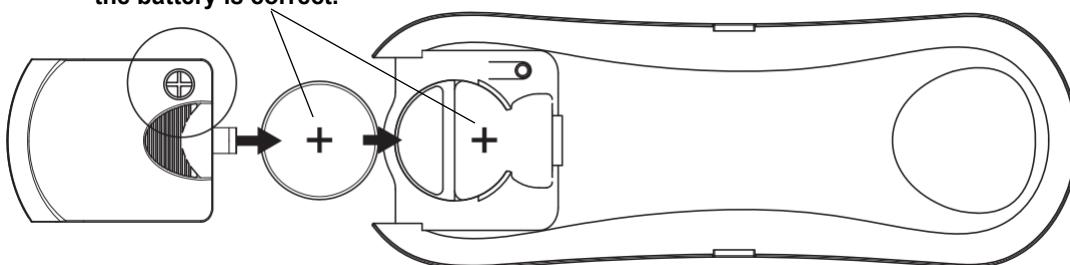

Fig. 10c
- Install a new 3V CR2032 DC battery in the compartment. Please make sure the polarity of the battery is correct. (Fig. 10c)